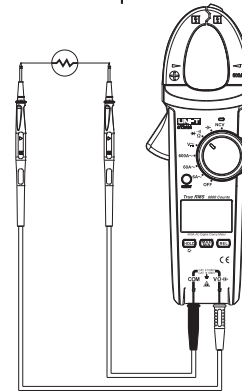

Figure 9
6. Continuity test (see Figure 9)